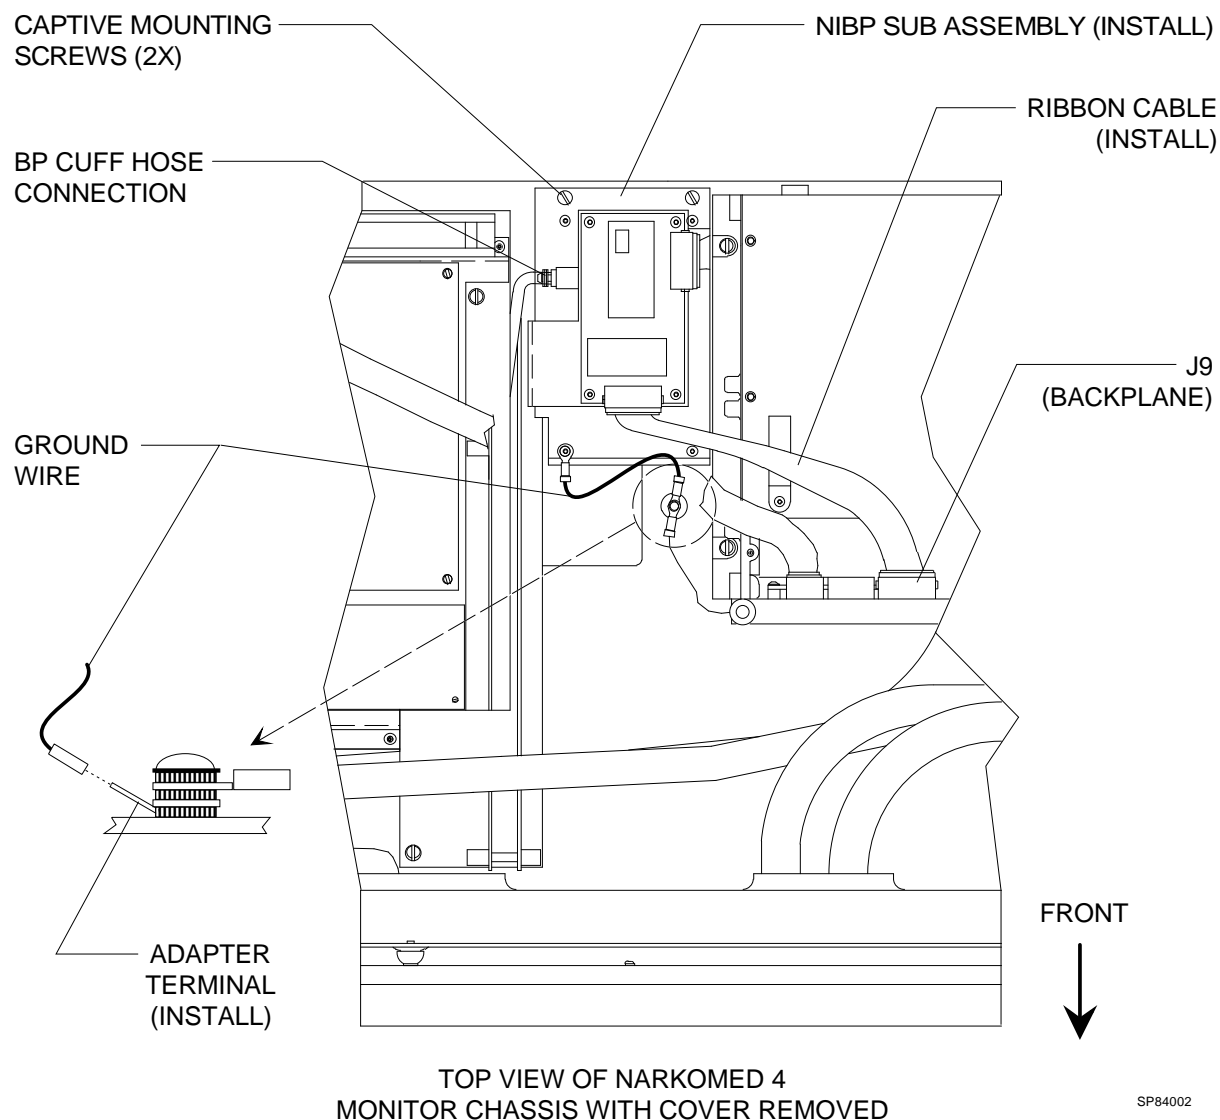

Figure 2: NIBP ASSEMBLY INSTALLATION
10. Install adapter terminal P/N 4107068 on the ground stud in the monitor chassis as shown in the detail in Figure 2. Ensure that there is a lockwasher on each side of the adapter terminal.
13. Attach the quick disconnect end of the NIBP ground wire to the terminal adapter that was previously installed on the monitor chassis. See Figure 2.